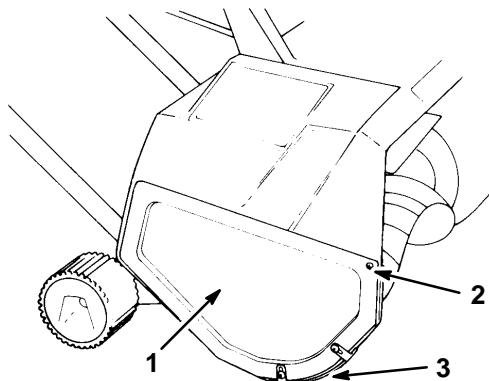

Figure 12
1. Remove (3) screws securing right side cover and skid to snowblower frame (Fig. 12).